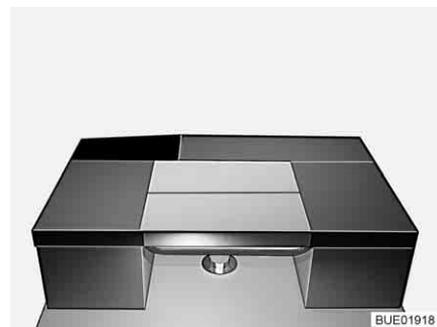

Fig. 124 After conversion
- Place the back cushion of the bench horizontally onto the table (see Fig. 124).